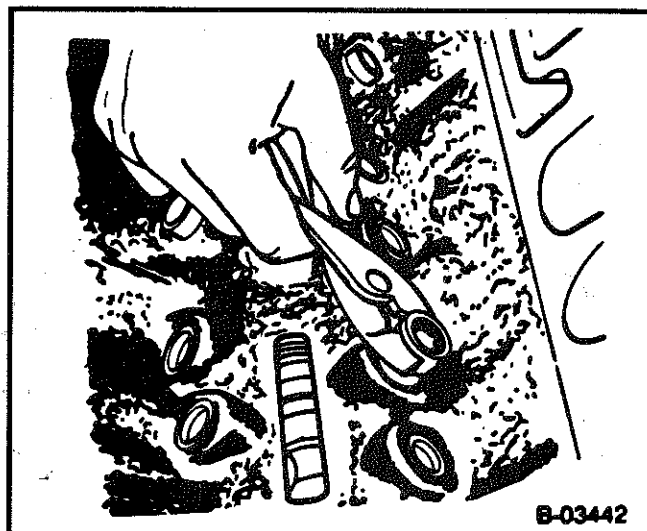
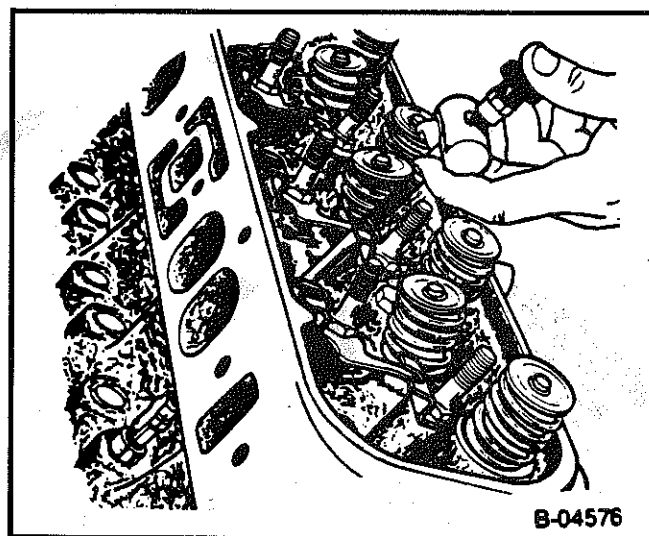

Figure 12 - Removing the Hydraulic Lifter
Figure 13 - Removing the Hydraulic Lifter (Typical)
4. Lifters (10).
- A stuck lifter can be removed using J 3049 (Figure 12) or J 9290-01 (Figure 13).